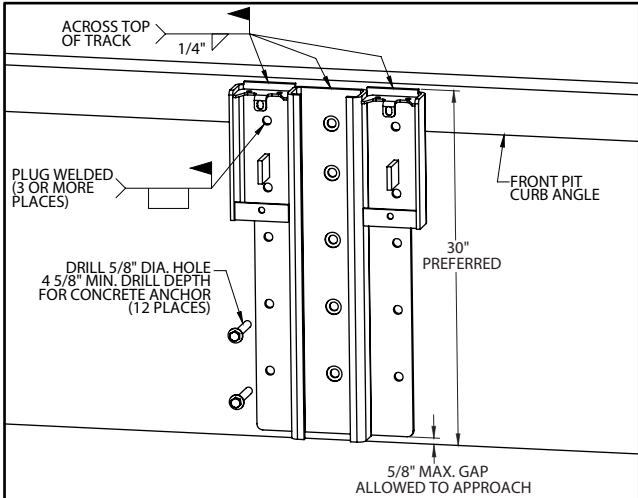

Figure 5-3-1 Anchoring roller track
Install roller track onto dock face at specified location by welding to an embedded steel plate or by using the fifteen (15) concrete anchors provided in conjunction with welding to pit steel and a leveler frame. Refer to Figures 5-3-1 and 5-4-1.
4. Install all anchors and torque to 60 ft-lbs. See Figure 5.3.1.
Plug weld all holes that are in contact with the embedded mounting plate. All fifteen (15) holes must be either plug welded or anchored. See Figure 5-3-1.